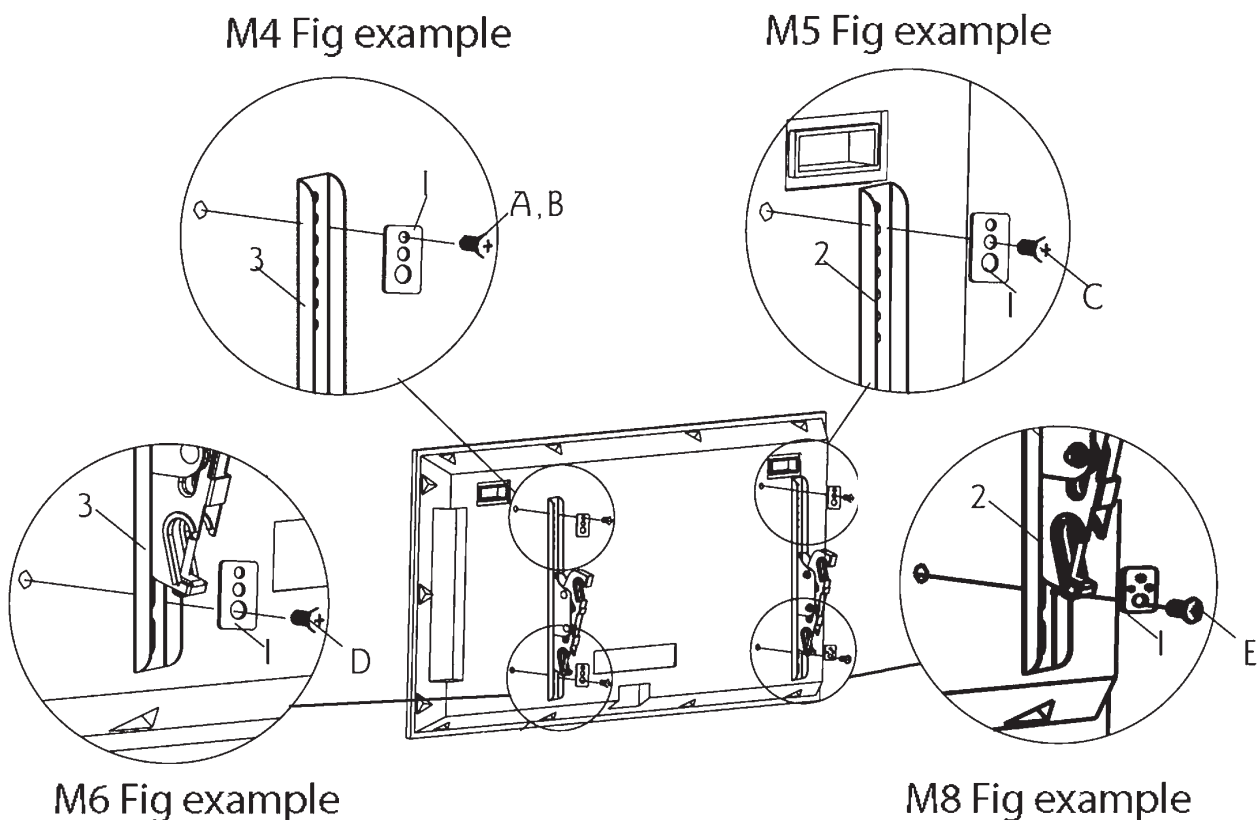

Fig. 1a
If your television has a straight back, spacers are not required. Use the selected bolts (A-F) and square washers (I) to install the bracket directly on the back of the television as shown in Fig 1a. Make sure that the two brackets are equal in height and are level. Once the brackets are aligned, securely tighten the bolts..